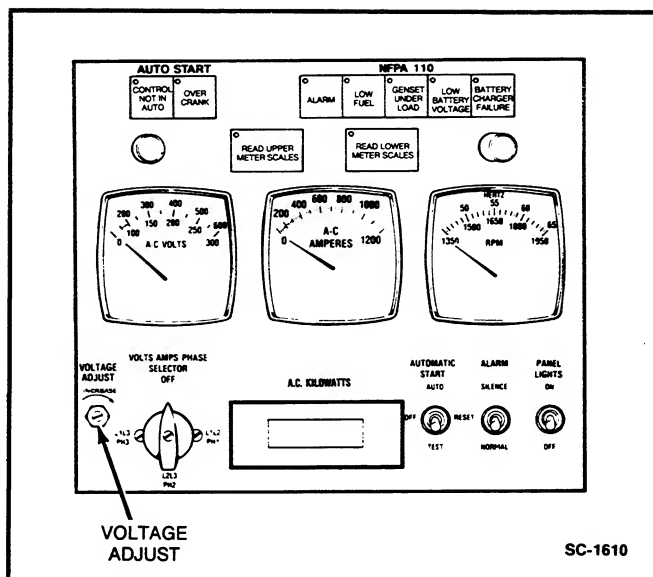

FIGURE 8-6. GENERATOR CONTROL PANEL
The AC generator is fitted with a permanent-magnet exciter which ensures voltage build-up from a low speed such that nominal voltage is achieved within a very short period after generator set start-up. Generator voltage is controlled by the voltage control rheostat located on the Generator Control Panel and the solid-state Voltage Regulator located on the engine side of the generator conduit box (see Figures 8-6 and 8-7).
1. Loosen the voltage control rheostat locking nut. With a screwdriver, turn rheostat fully counter-clockwise, then fully clockwise, then to mid position (see Figure 8-6).
4. Perform fine voltage adjustment (± 3 percent) of control rheostat as necessary and retighten locking nut (see Figure 8-6).